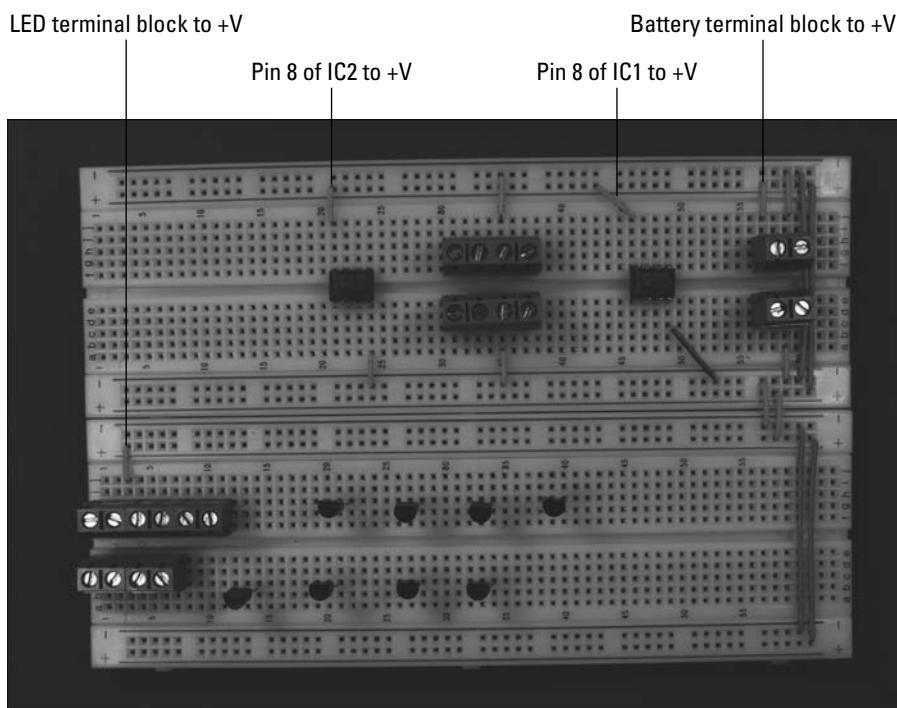

Figure 5-7:
- 4. Insert wires to connect the ICs, the battery terminal block, and one of the LED terminal blocks to the +V bus. Then insert wires between the +V buses to connect them, as shown in Figure 5-7.**